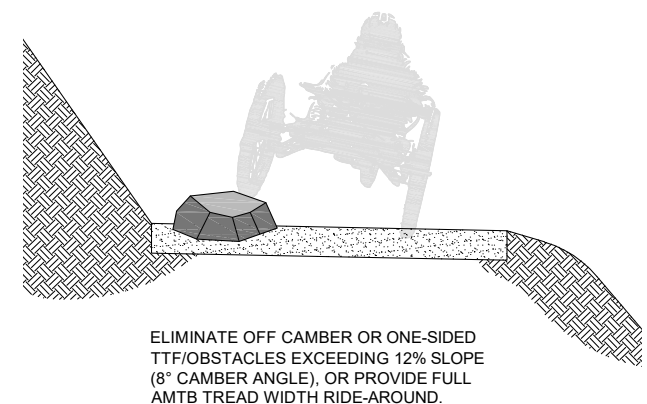

Figure 3 - Off-Camber Hazard
- (Refer to Figure 3 and Appendix A: aMTB Trail Difficulty Rating System - Obstacles to match spec to trail difficulty); and